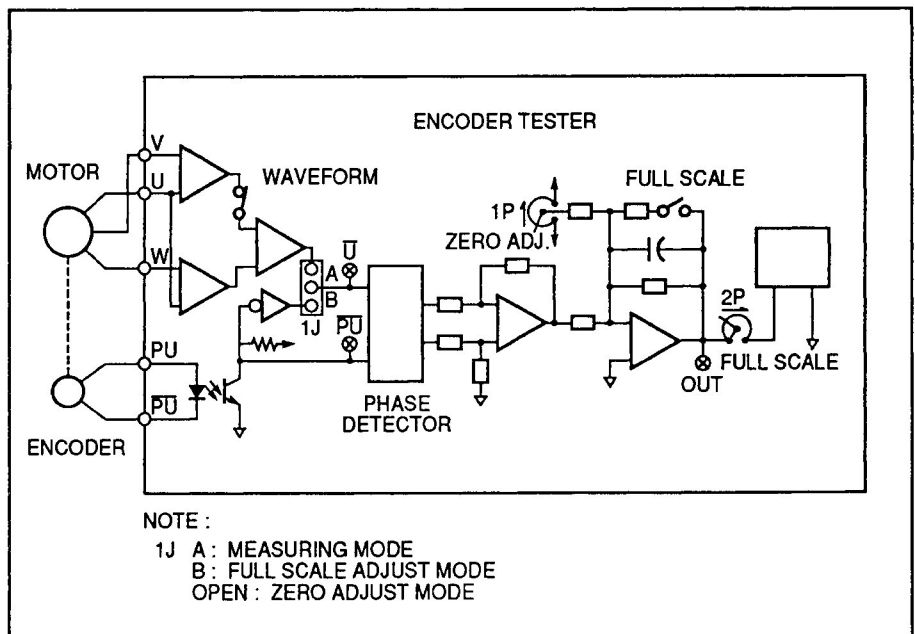

Figure 1. Encoder Tester Block Diagram.
The Encoder Tester Kit is for use with HR2000™ controller. The Encoder Tester provides a means to check the amount of angular difference between motor stator position and encoder stator position primarily following the servicing of the motor. The Encoder Tester compares the generated electromotive force (EMF) voltage phase angle of the motor, when it is running free, to the output voltage phase angle of the motor's encoder, or pulse generator (PG). Any resultant phase angle deviation is displayed on the analog meter on the front of the Encoder Tester. See Figure 1 for the Encoder Tester block diagram. The Encoder Tester must be disconnected from the system before resuming normal operation.